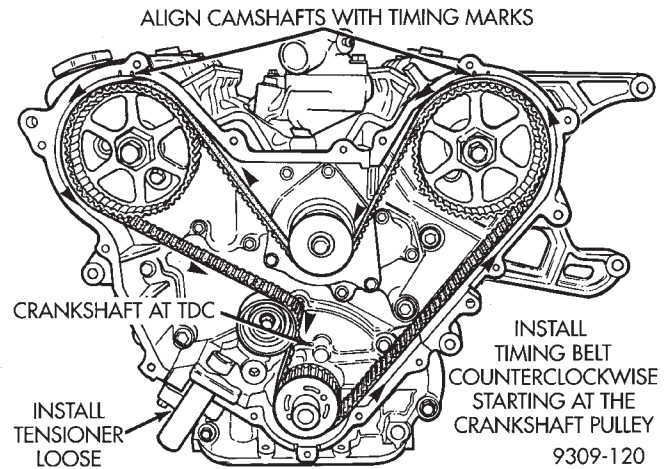

Fig. 49 Timing Belt—Installation
(6) Install the timing belt starting at the crankshaft sprocket going in a counterclockwise direction (Fig. 49). Install the belt around the last sprocket. Maintain tension on the belt as it is positioned